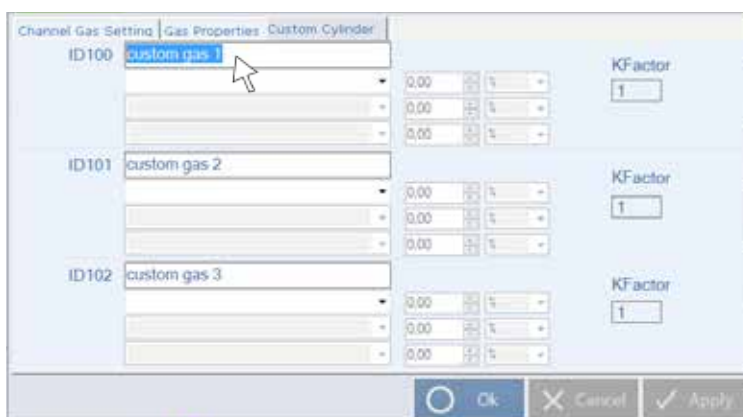

Fig. 23
- **ID100,101,102** – Here (Fig. 23) you can indicate the name you will choose for your custom cylinder.